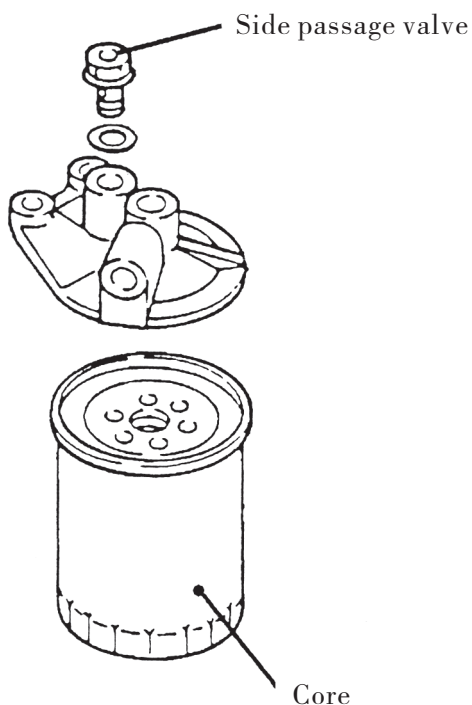

Fig. 1.6
1.3.2 For fuel filter, See Fig. 1.6.